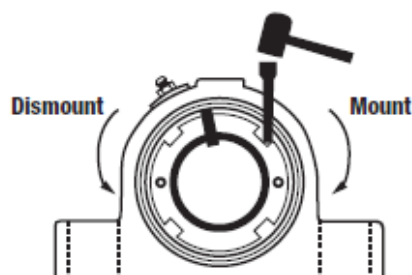

Figure 3
- (Figure 3) Rotate locknut counter clockwise until bearing freely slides from the shaft.